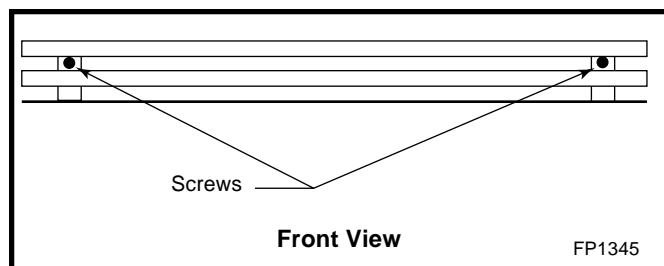

Fig. 29 RFSDV32 louvre removal.
To remove louvres first remove the two (2) screws (Fig. 29) fastening the louvre assembly to the fireplace. Lift the louvre assembly straight out sliding the back guides out of the fireplace body. (To reinstall, reverse).